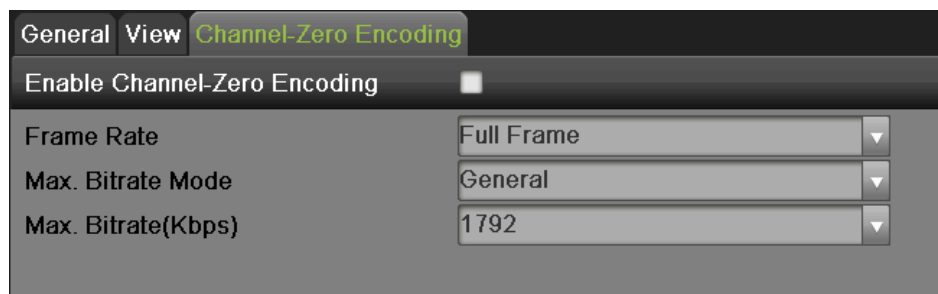

Figure 70 Channel-Zero Encoding Menu
2. Select the Channel-Zero Encoding tab, as shown in **Figure 70**.